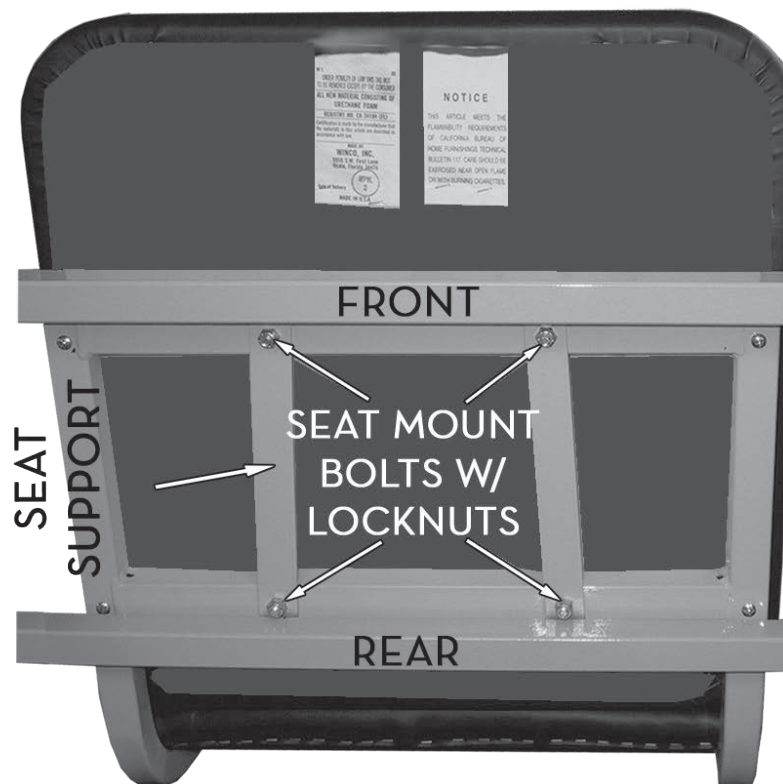

FIG. 1
2. Align the screws on bottom of the **Seat Assembly**, with the **Seat Support holes**. (Hole spacing of Seat Supports will be narrower toward front of Chair). **Seat** can only be properly installed facing one direction. **Be sure that all four (4) Seat Screws go completely through the Seat Support straps on chair frame (FIG. 1).**
3. Install **four (4) lock nuts** to the screws on the **Seat Assembly** and completely tighten with $\frac{7}{16}$ " wrench (**FIG. 1**).